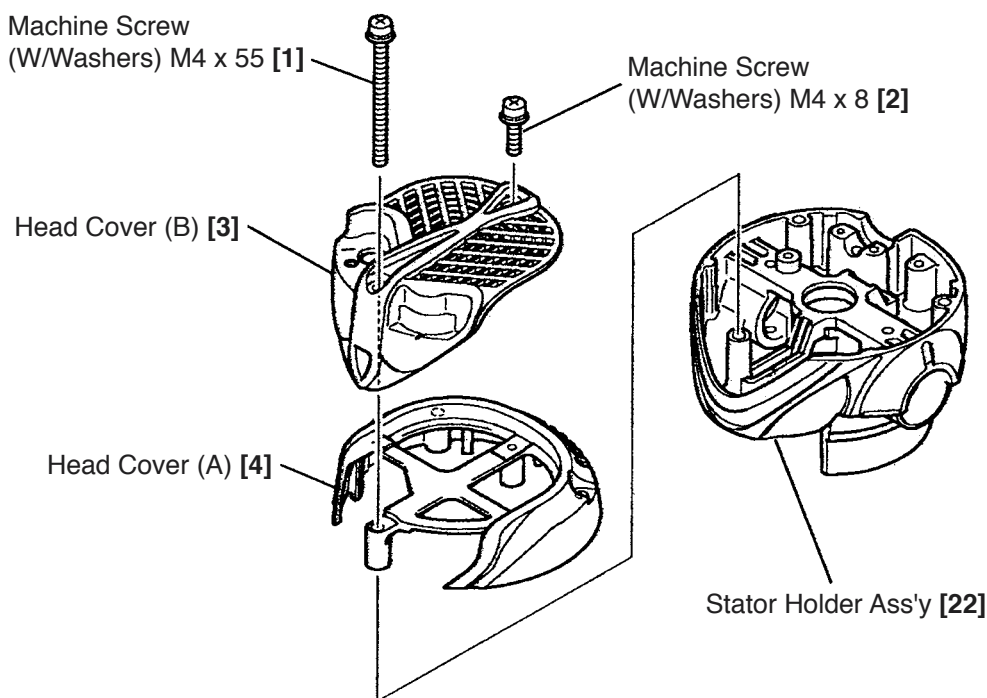

Fig. 5
(1) First, remove the bit. If further disassembly is attempted with the bit mounted on the router, it may cause damage to the cutting edges of the bit and/or serious injury to the handler.
(2) Removal of Head Cover (A) [4] and (B) [3] (Fig. 5)